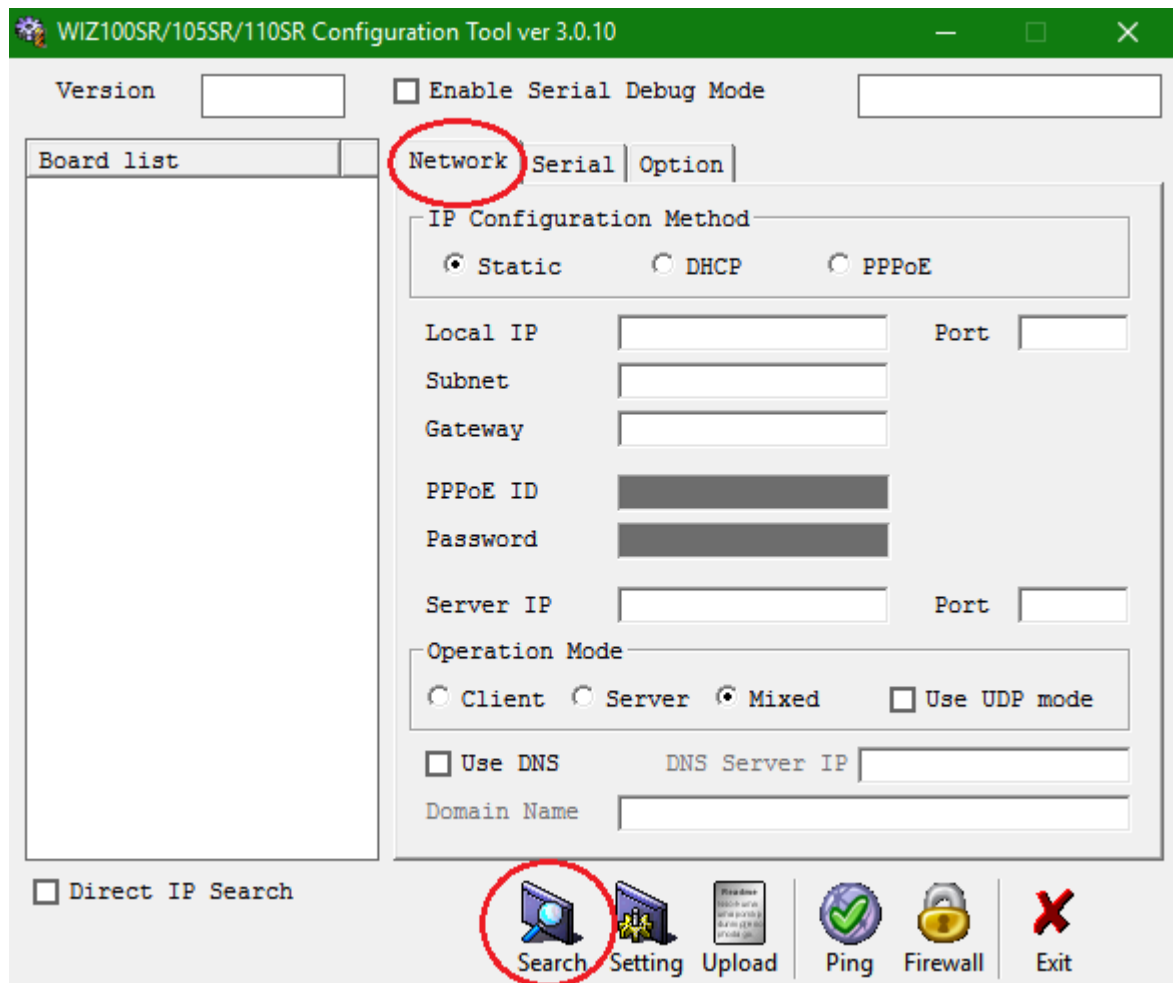

Figure 9
- The **SR2 NW Network - Configuration** utility's home page is displayed, with the **Network** tab selected. See Figure 9.
2. Click on **Search** on the lower toolbar (See Figure 9) to start searching the Network for connected CR3NW/SR2(s).